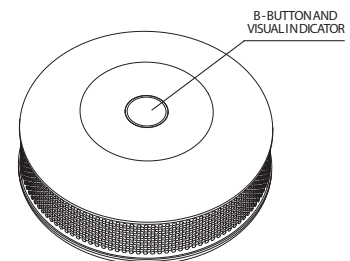

Fig. 1. Smoke-Control top view
4. Quickly, triple click the B-button, located on Smoke-Control's casing (Fig. 1).
3. Quickly, triple click the B-button, located on Smoke-Control's casing (Fig. 1).